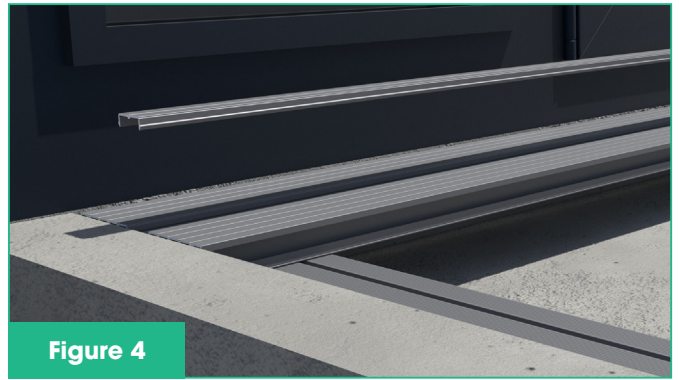

Figure 4
- Push the Channel Insert firmly into place along the board run (Figure 4).
Offer up the next board and engage it with the previous board. If installing a positive drain system, ensure boards are interlocking using gutter insert (Figure 4). If installing a free draining system, ensure that you leave a 6mm gap between each decking board.